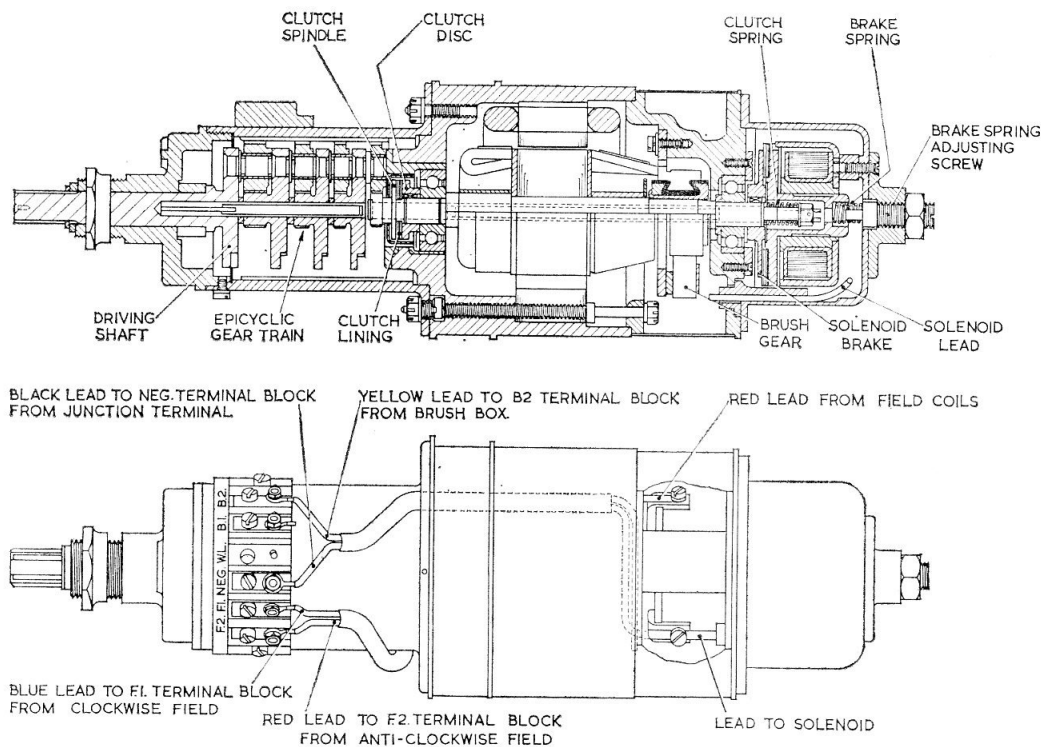
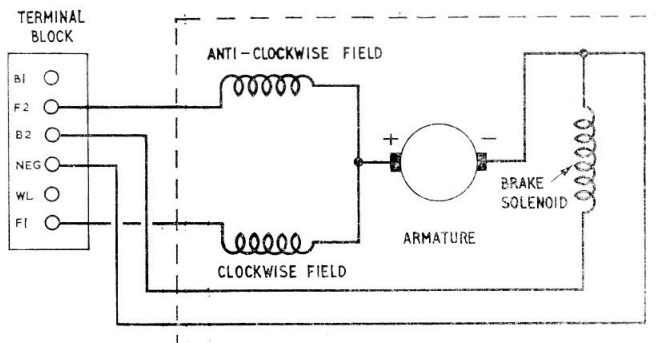

Fig. 1. Actuator, Type C1311, shown in section
Fig. 2. Circuit diagram
1. The actuator, Type C1311 (fig. 1), is generally similar to that described and illustrated in the main chapter. It differs in that no dust cover is fitted, and the internal electrical leads are brought out to a terminal block mounted on the gearbox cover. The auto-switch mechanism, which is incorporated in some types, is not fitted in this actuator. A circuit diagram is given in fig. 2.